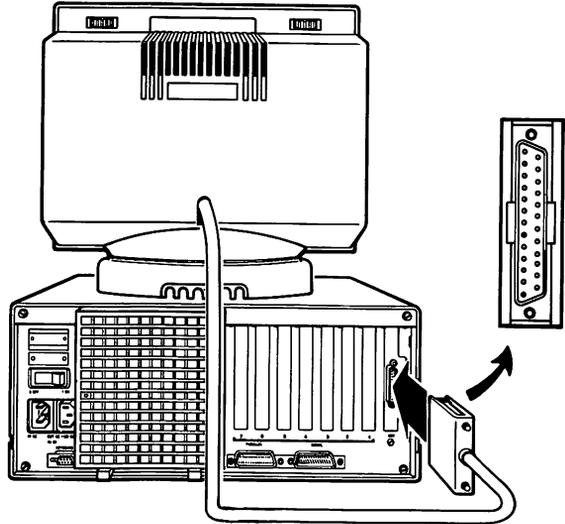

*Figure 1-10. Connecting the mouse (optional).*
- Look at the end of the plug on the mouse cable. Notice that the ring around the pins is wider on one side. Turn the plug so that the wider side is down, as shown in Fig 1-10.